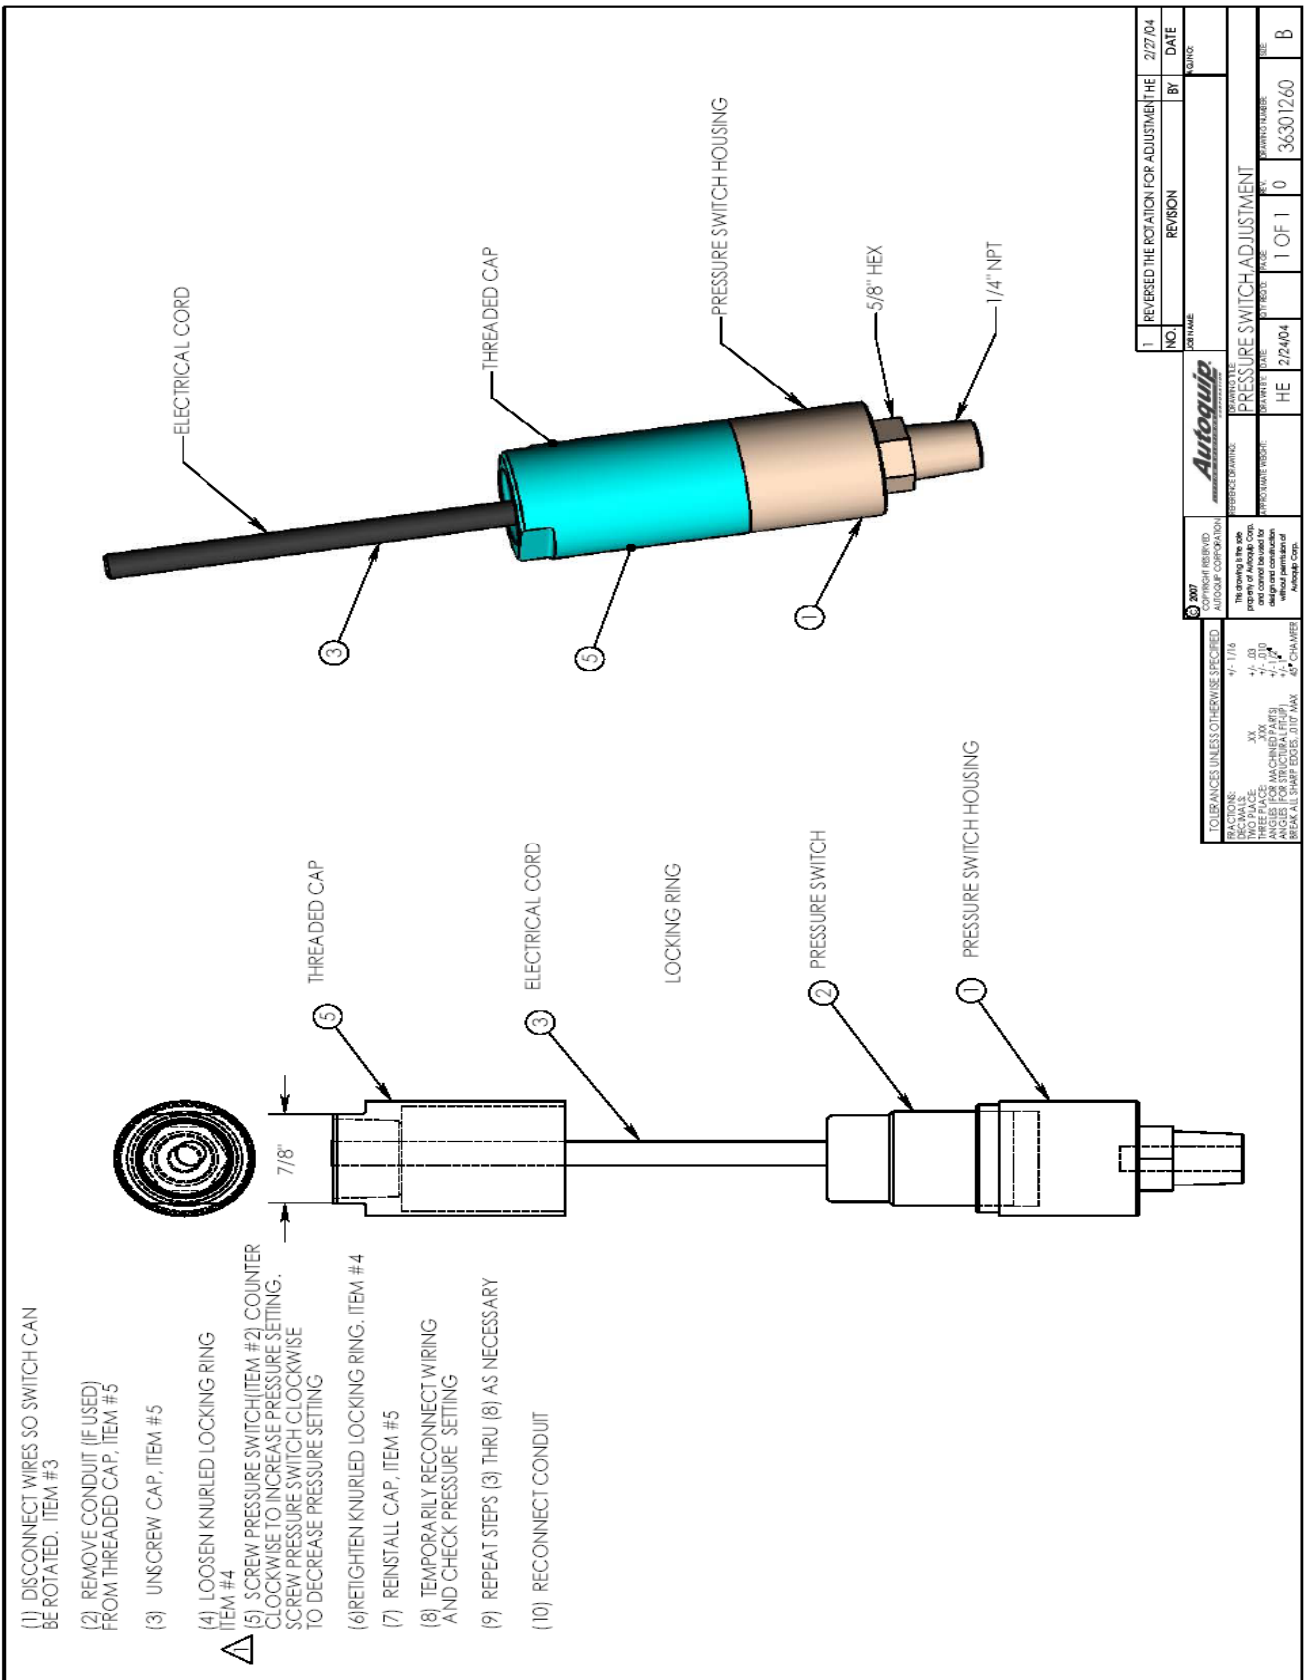

Figure 23 Pressure Switch Adjustment
11. Adjust the pressure switch setting per the steps shown in **Figure 23**.